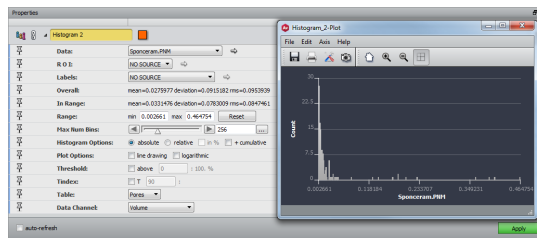

Figure 20.18: Pore Volume Histogram
- The generated PNM can be used to plot the statistics of the pore space (see Figures 20.18 and 20.19).